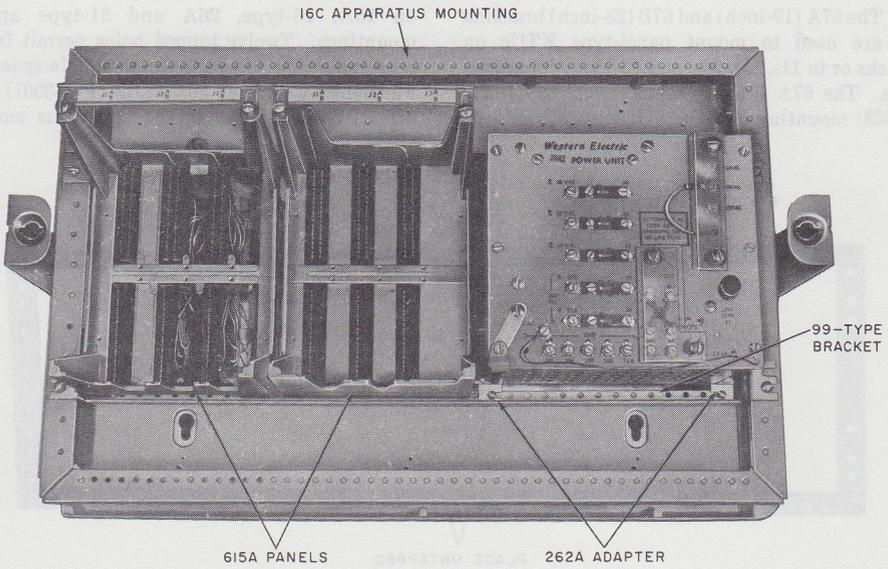

Fig. 42—16C Apparatus Mounting with 615A Panels Mounted on 99-Type Brackets and 20-Type Power Unit Mounted on 262A Adapter
10.01 The 262A adapter is used to mount a 20-type power unit in a 16C apparatus mounting with two 615A panels using 99-type brackets (Fig. 42). All necessary screws and